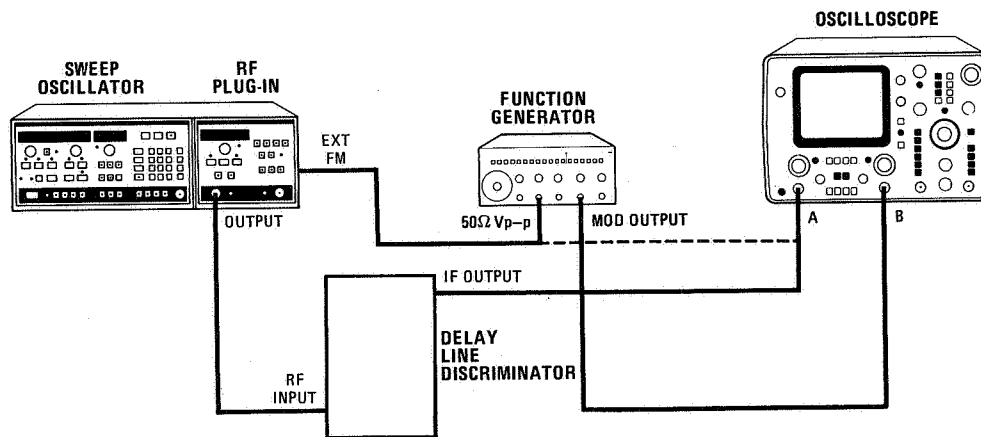

Figure 4-17. FM Frequency Response Test Setup
1. Connect equipment as shown in Figure 4-17. Press 8350A INSTR PRESET, CW and disengage DISPL BLANK, and plug-in CW FILTER.
3. Adjust the oscilloscope with GND reference switched in for a trace on center line then reset oscilloscope to 50 $\Omega$  input. Connect the function generator output to Channel A and adjust output for 100 mv peak-to-peak on CRT. Reconnect the equipment as shown in Figure 4-17. Check GND reference on oscilloscope. Return oscilloscope to 50 $\Omega$  input. Adjust CW and CW Vernier control to center trace on CRT.